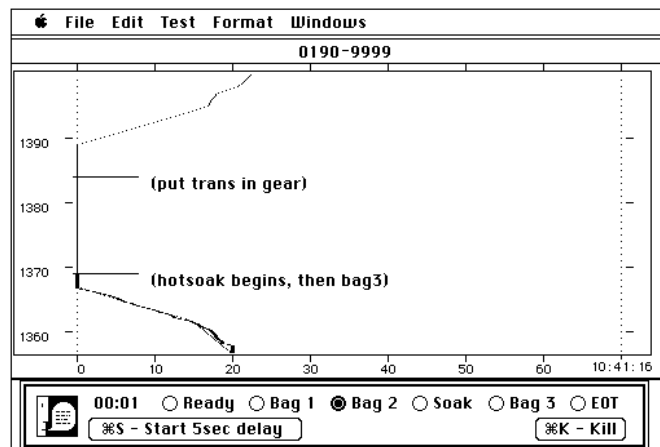

Figure 18
- 316 When the engine stops running, press <Command-S>. Five seconds later, the sampling will automatically stop and the soak indicator on the VDA screen will light. See Figure 18. The VDA will automatically reset to the beginning of the next driving schedule.